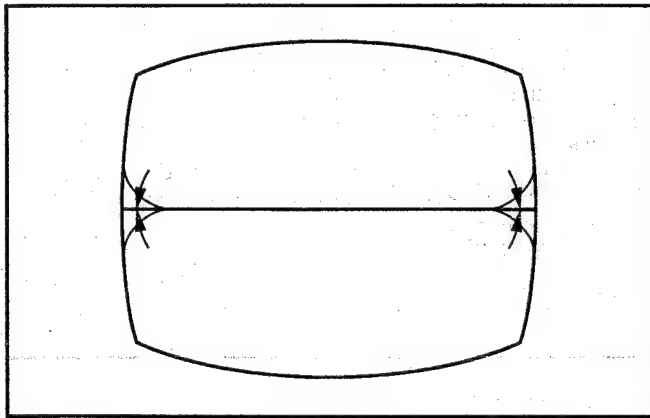

Fig. E14
3. Hold Deflection Yoke and wiggle it right to left to correct Crosshatch Pattern position (Refer to Fig. E14).